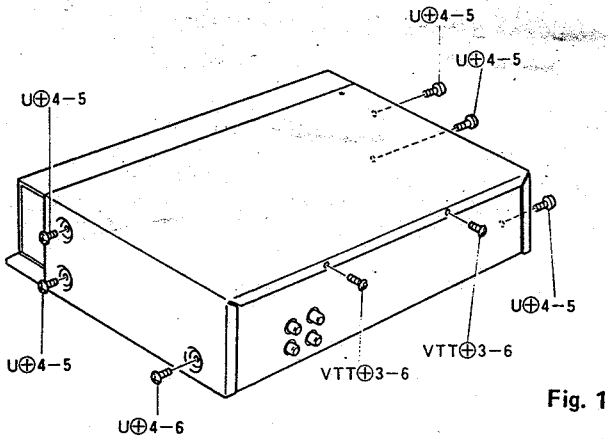

Fig. 1
1) Remove 8 screws. (See figure 1)